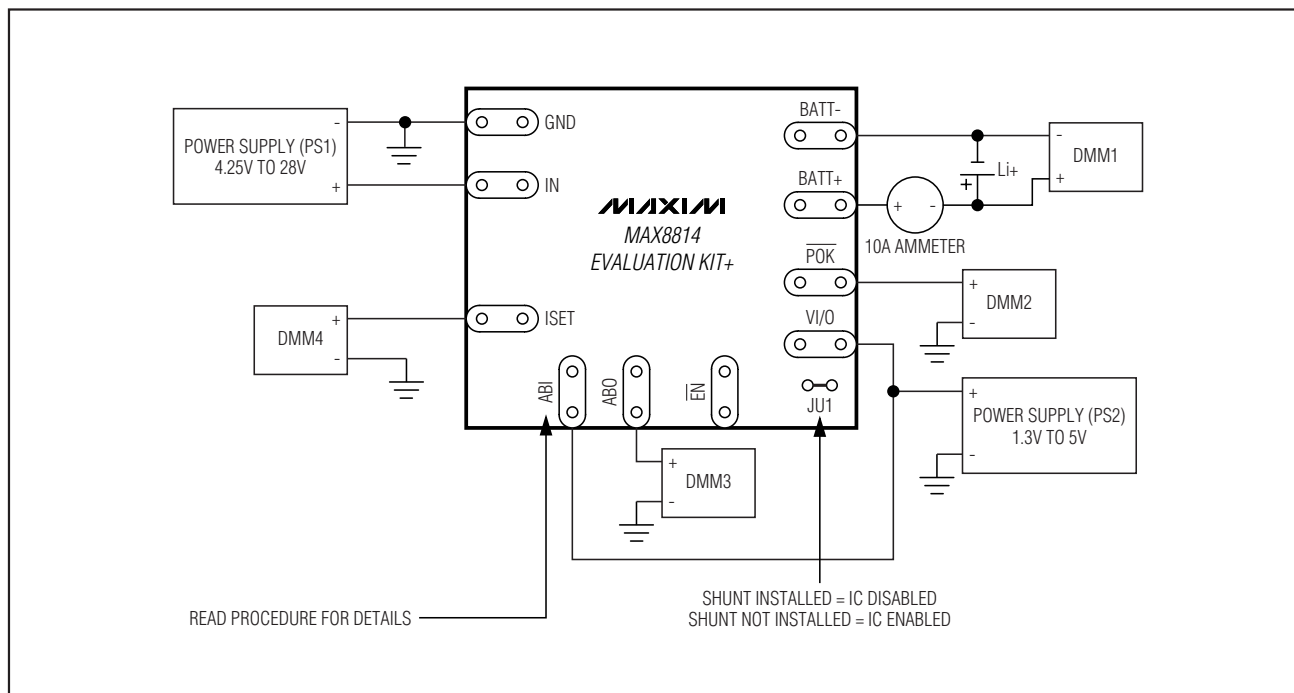

Figure 1. Test Procedure Setup for MAX8814 EV Kit
The MAX8814 EV kit is a fully assembled and tested surface-mount PCB. Follow the steps below and see Figure 1 to set up and verify board operation. **Caution: Do not turn on power supplies until all connections are made.**
- 6) Observe correct Li+ cell polarity. Connect a single-cell Li+ cell and 10A ammeter, as shown in Figure 1. The positive lead of the ammeter must connect to BATT+ and the negative lead to the positive terminal of the Li+ battery.
The MAX8814 charger uses voltage, current, and thermal-control loops to charge a single Li+ cell and protect the battery (Figure 1). When an Li+ battery with a cell voltage below 2.5V is inserted, the MAX8814 charger enters the prequalification stage where it precharges that cell with 10% of the user-programmed fast-charge current. When battery voltage reaches 2.5V, the charger soft-starts as it enters the fast-charge stage. In the MAX8814, the fast-charge current level is programmed through a resistor from ISET to GND. As the battery voltage approaches 4.2V, the charging current is reduced. Once the battery voltage reaches 4.2V, the IC then enters a constant voltage regulation mode to maintain the battery at full charge.
The MAX8814 contains an autobooting assistant circuit that generates an enable signal for system booting (ABO). The booting assistant functions as an internal "OR" gate (refer to Figure 1 in the MAX8814 IC data sheet for details). The first input is dependent on the state of the internal POK signal and the second input is an external signal applied to ABI.